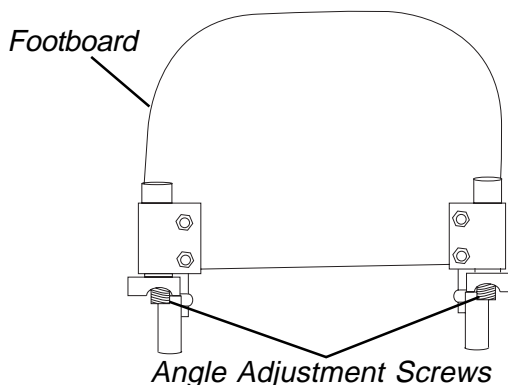

FIGURE 1 - ADJUSTING/REPLACING FLIP-UP FOOTBOARD
ADJUSTING/REPLACING FLIP-UP FOOTBOARD (FIGURE 1)
3. Install the hex bolts, locknuts and covered washers through the footboard and footboard mounting bar as shown in FIGURE 1.